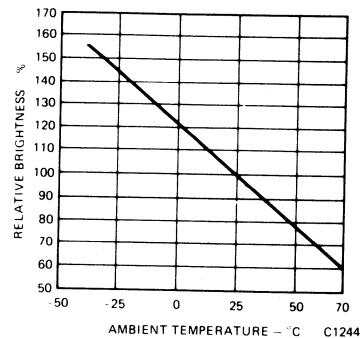

Fig. 3. Luminous Intensity vs. Temperature (See Note 2)
2. The curve in Fig. 3 is normalized to the brightness at 25°C to indicate the relative efficiency over the operating temperature range.